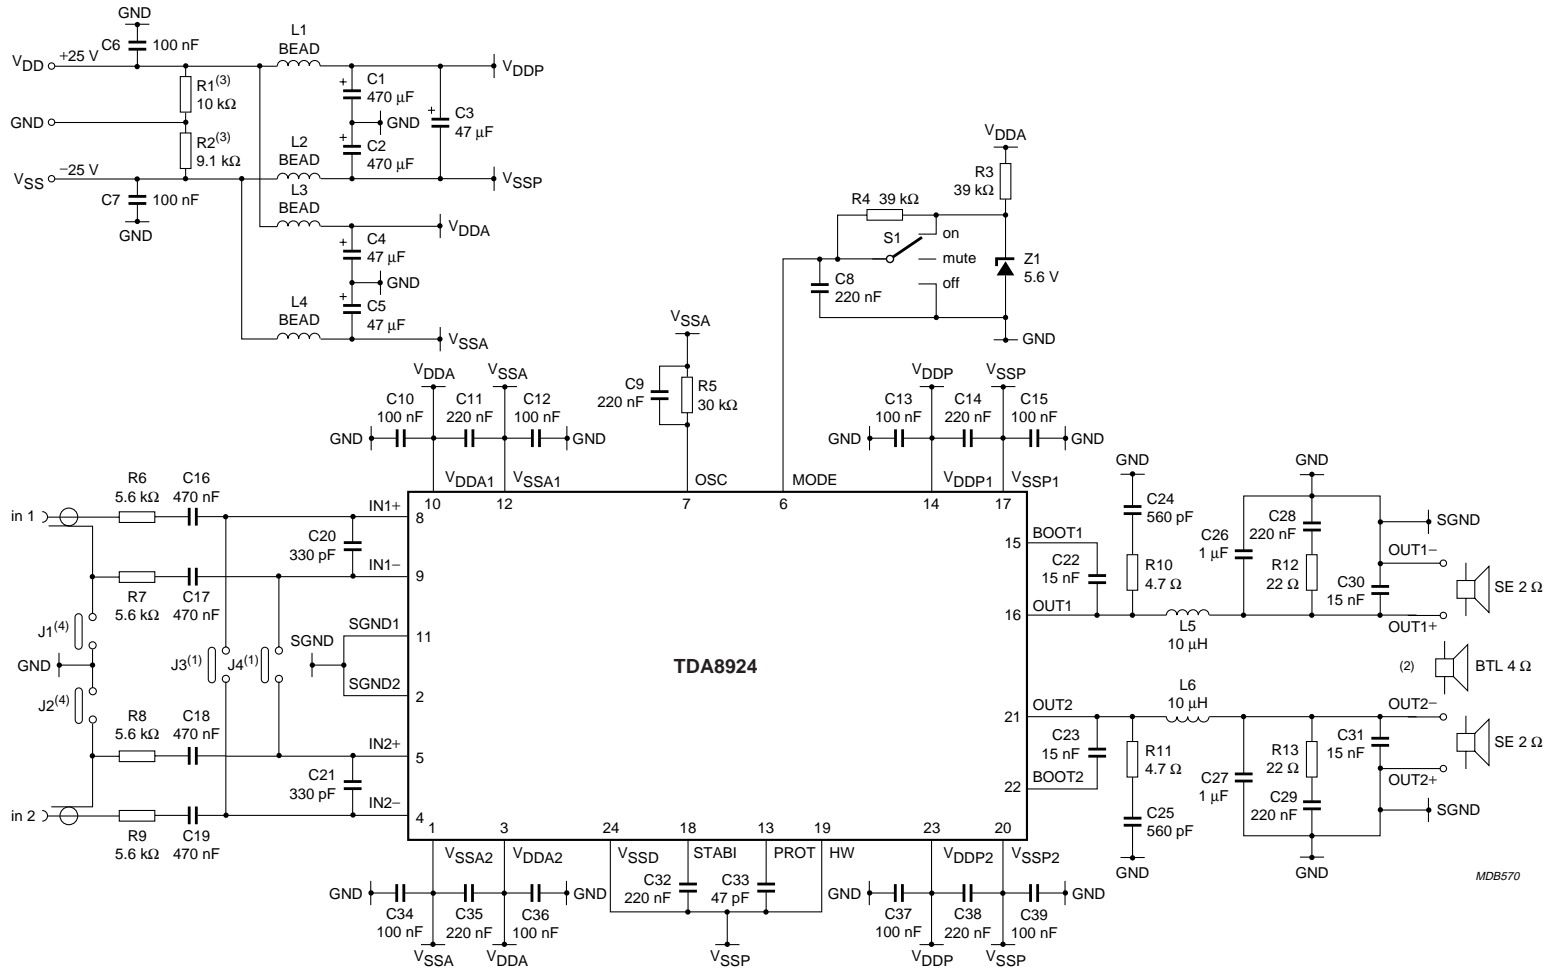

Fig.9 Single-chip class-D audio amplifier application diagram.
The reference design for the single-chip class-D audio amplifier using the TDA8924 is illustrated in Fig.9. The Printed-Circuit Board (PCB) layout is shown in Fig.10. The Bill Of Materials (BOM) is given in Table 1.
16.11 Reference design: bill of materials**Table 1** Single-chip class-D audio amplifier printed-circuit board (version 4; 01-2002) for TDA8924TH (see Figs 9 and 10)